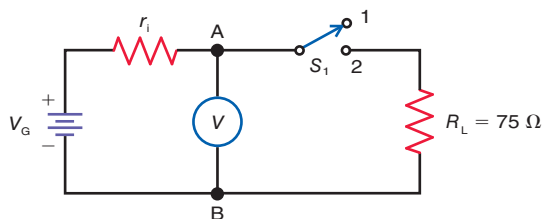

Figure 10-30
- 10.10** Refer to Fig. 10-30. With S_1 in position 1, $V = 50$ V. With S_1 in position 2, $V = 37.5$ V. Calculate r_i .